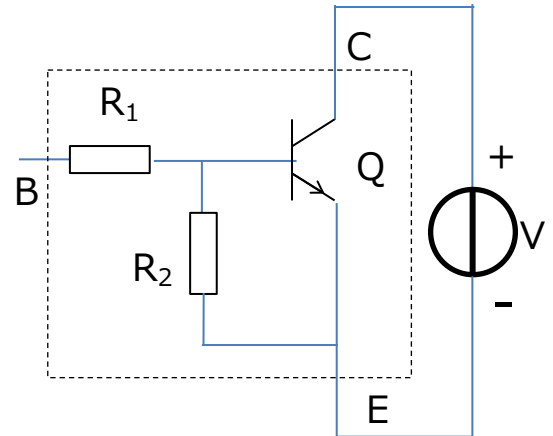

Figure 3-2 Collector-emitter voltage (NPN BRT)
Voltage is applied across the collector (C) and emitter (E) terminals with the base (B) terminal open-circuited as shown in Figure 3-2. V_{CE0} is the maximum voltage that can be applied across the collector (C) and emitter (E) terminals. When a BRT is used as a switch, V_{CE0} is the maximum voltage that can be applied when it is off.
When voltage is applied as shown in Figure 3-2, the pn junction between the base (b) and collector (C) is